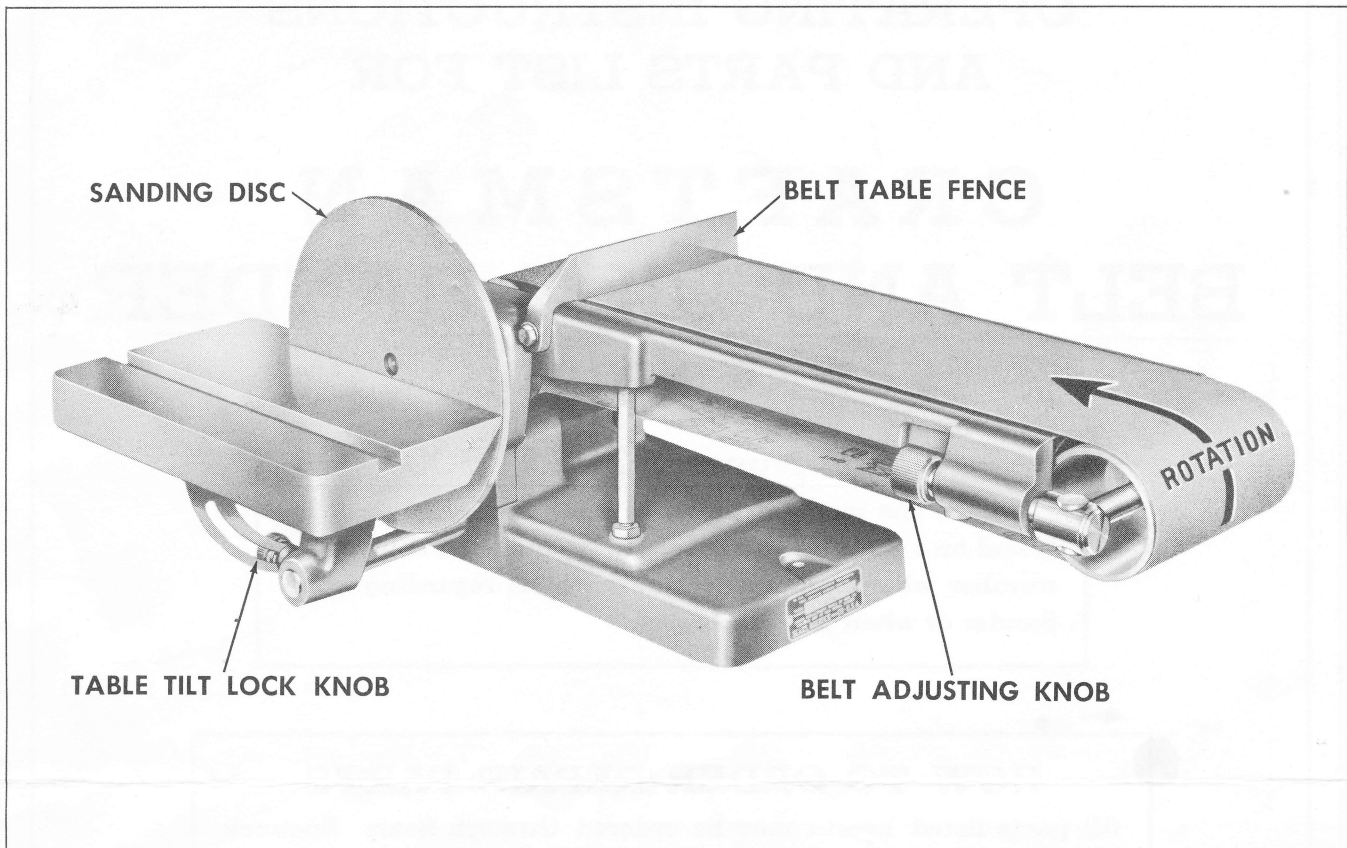

FIGURE 1
1. Face the end of the tool with rotation arrow, see Fig. 1, pointing away from you.
1. Rotate the belt by hand in the correct direction, as shown in Fig. 1.
When installing new sanding belts follow the above steps. Be sure the arrow on the inside of the belt points in the same direction as the rotation arrow shown in Fig. 1.
Use the **belt table fence**, See Fig. 1, to back up the work. If the work piece is longer than the belt surface, remove the fence to allow full use of the belt.